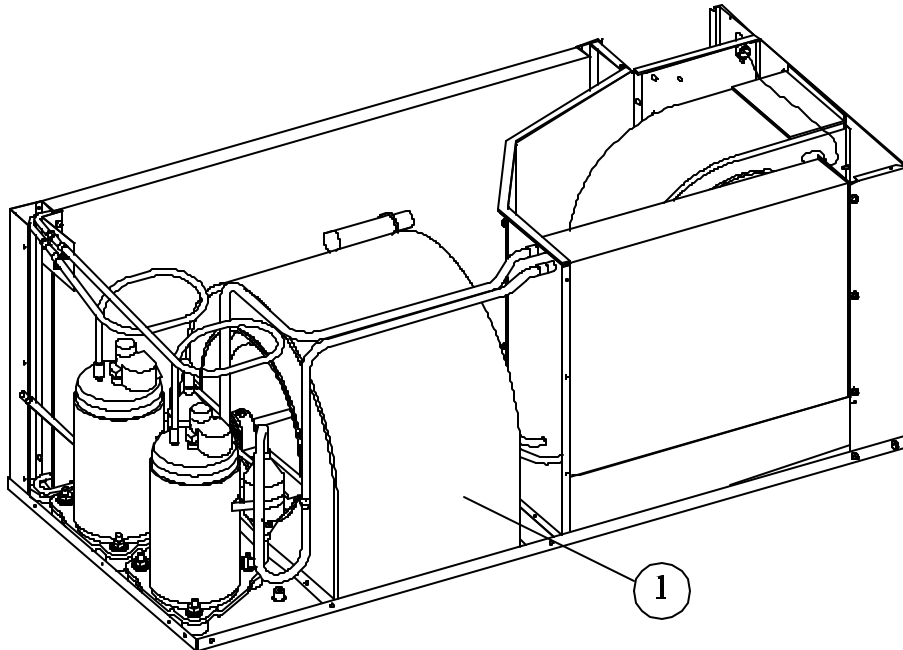

FIGURE 11
- Note: Upon reassembly, the references made on Figures 11 and 12 shall be used for proper reassembly. The assemblies shall be secured with wire ties in order to prevent excess chafing and vibration.